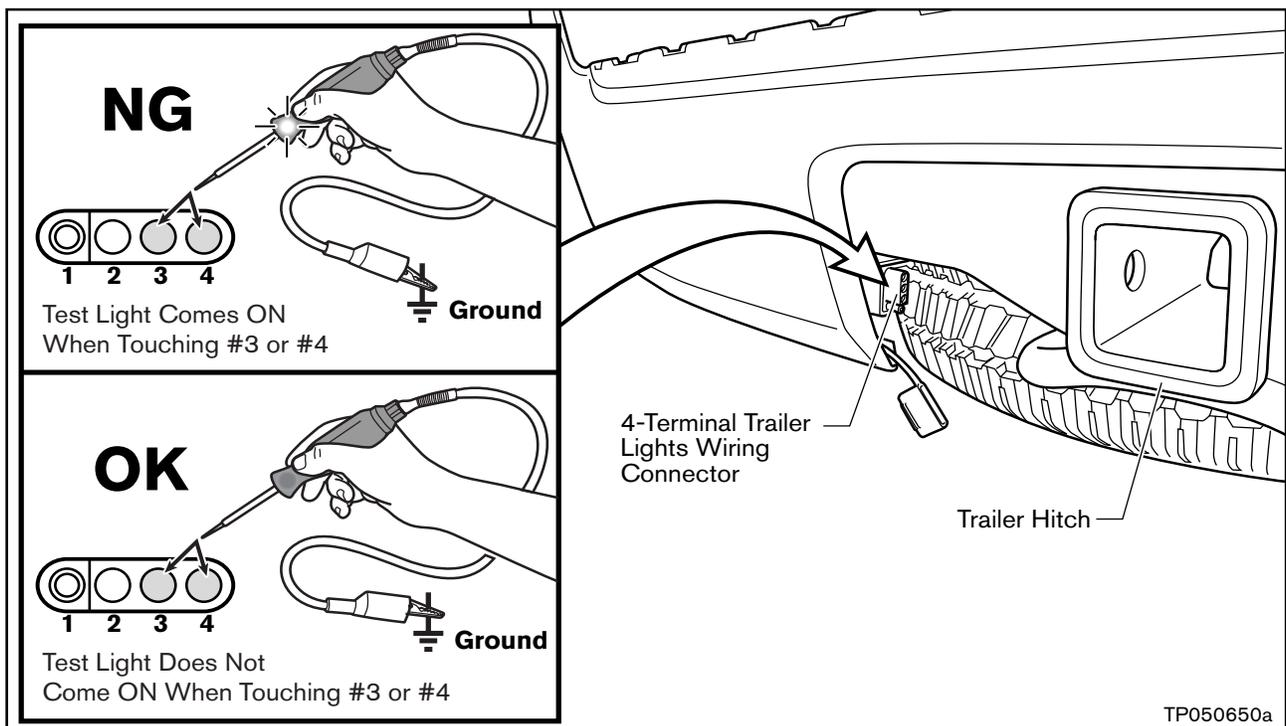

Figure 1
3. Using a Test Light, check for power at terminals **#3** and **#4** (see Figure 1).